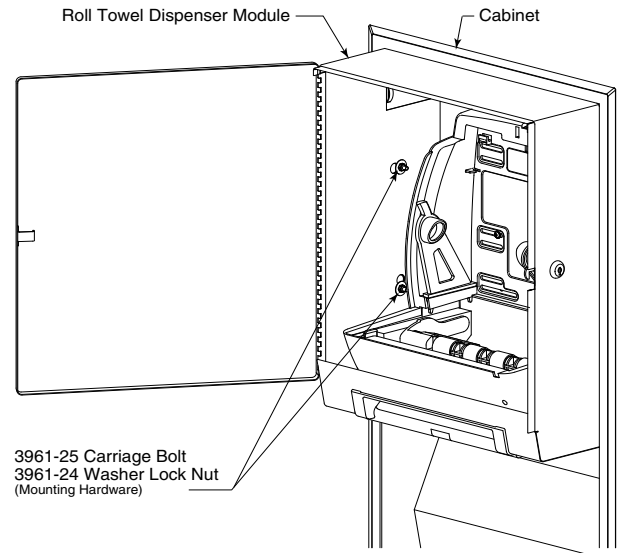

Figure 1
3. Loosen but do not remove the 3961-24 Washer Lock Nuts located on the left and right sides of the Modular Housing Assembly until the 3961-25 Carriage Bolt can be moved. The 3961-24 Hex Lock Nut should not be removed from the 3961-25 Carriage Bolt, ensuring that the Carriage Bolt will not fall into the wall cavity. (See Figure 1)